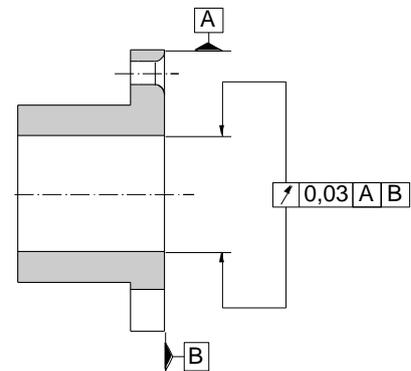

Fig. 3
- ❑ The recommended bore tolerances are to be produced using the position and tolerance width as references; at the same time, please keep to the shaft run-out and axial run-out tolerances of 0,03 mm (see Fig. 3).